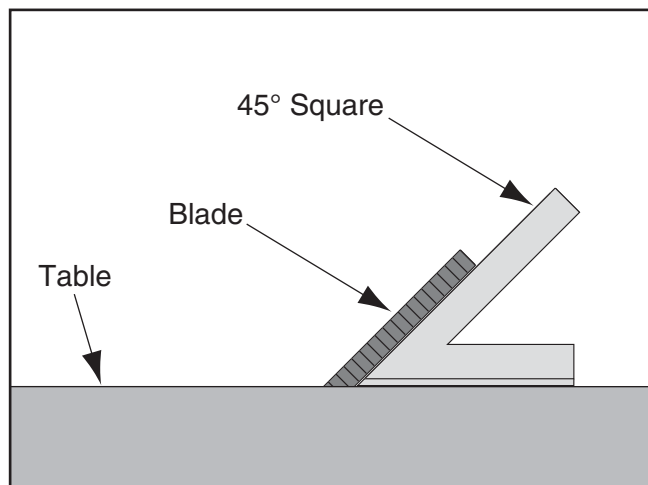

Figure 79. Checking blade at 45°.
3. Place a 45° square against the table and blade so it contacts the blade evenly from bottom to top, as shown in **Figure 79**. Make sure a blade tooth does not obstruct the placement of the square.